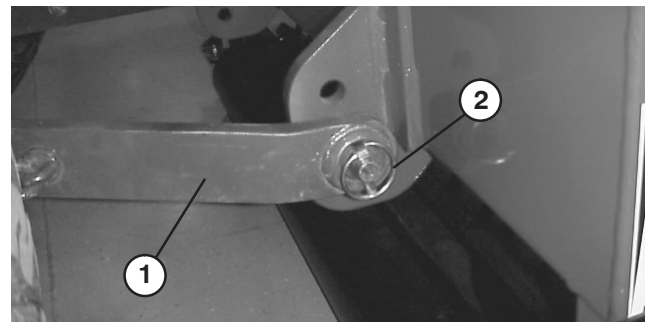

Figure 2
5. Insert right and left lower link arms onto hitch pins (Fig. 2).
6. Secure lower link arms to hitch pins with lynch pins (Fig. 2).